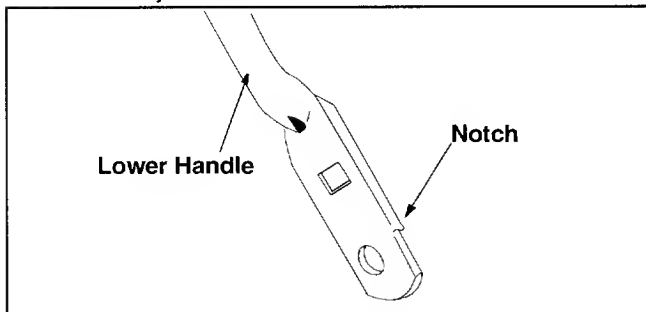

Figure 12
- Turn lower handle around so the notch on the bottom of the lower handle is facing forward. Reassemble, placing the bottom holes in the handle over the weld pins in the handle mounting bracket. See Figure 12.